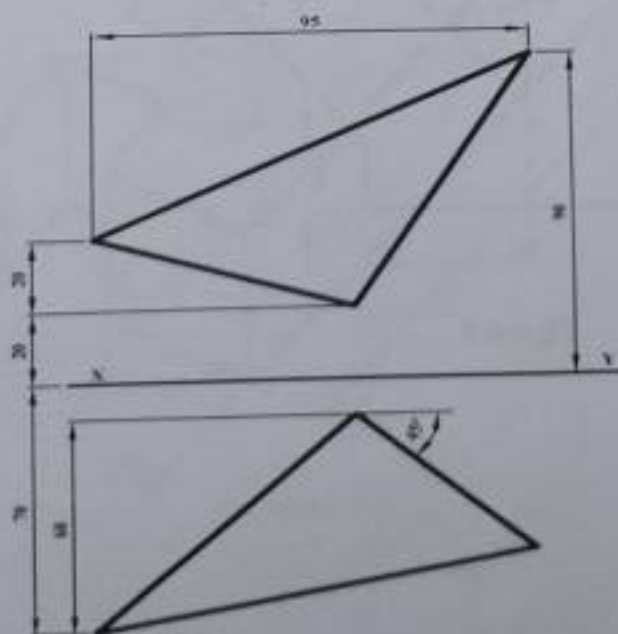

Figure 3
3. Two views of lamina given in first angle projection are shown in Figure 3. Draw the true shape of lamina using front elevation. (20 marks)